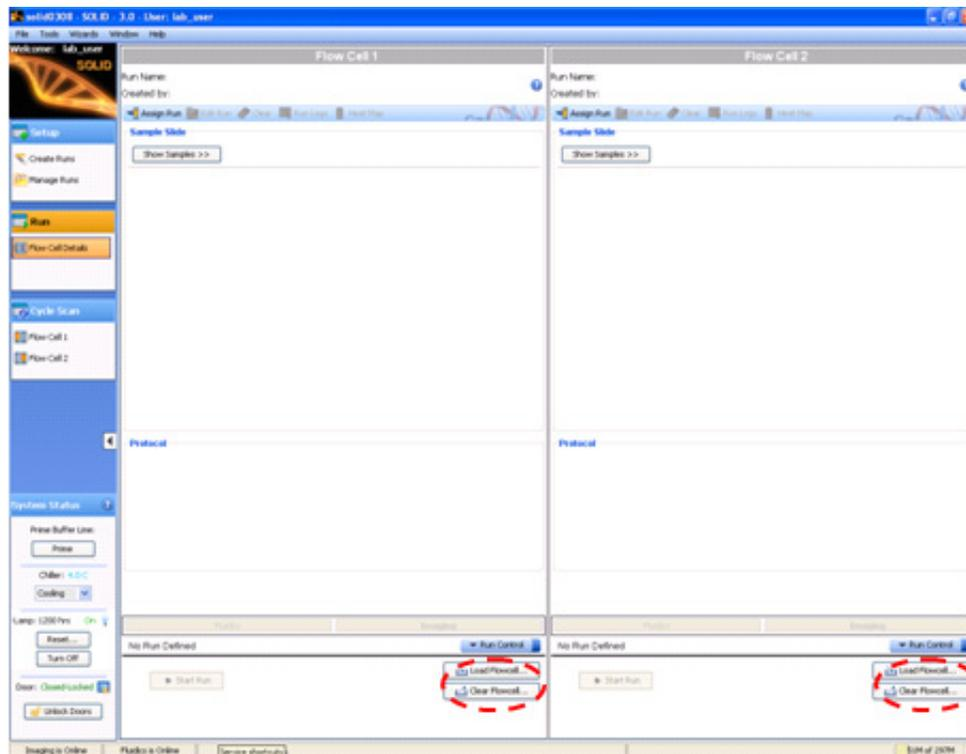

Figure 20 Click **Clear Flowcell** to flush the contents from the flowcell.
2. For each flowcell to be used, click the **Clear Flowcell** button at the bottom of the flowcell panel (see Figure 20 on page 30).